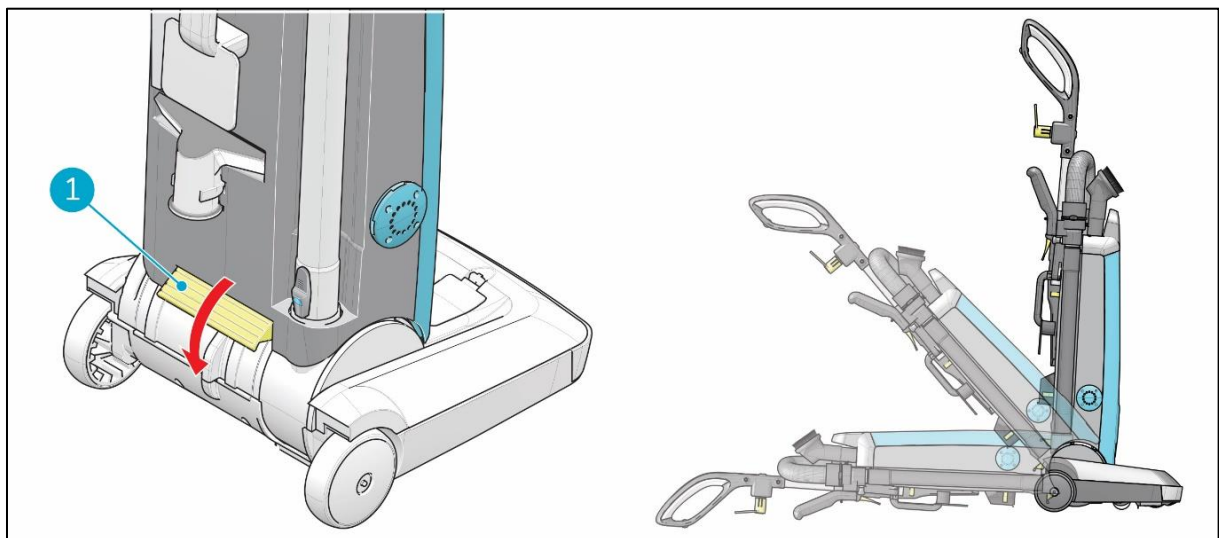

Figure 16
1. Press the position switch (Figure 16, pos 1) to release the main body of the i-vac 30UR from its vertical position.